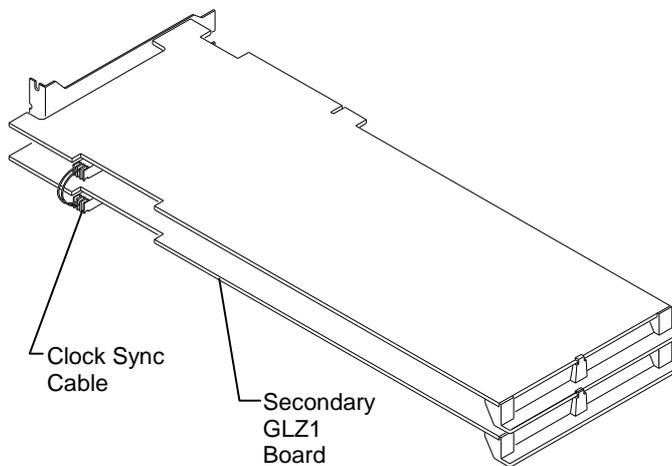

Figure 2-11. Clock Sync Cable Installation
4. Install the clock sync cable between the two GLZ1 boards. Refer to Figure 2-11.